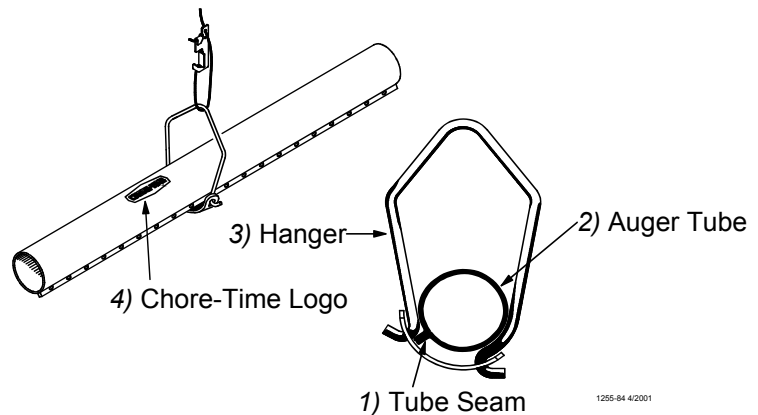

Figure 30. Hanger Installation
3. To achieve total feed drop out all along the system, the Chore-Time Logo should be centered at the crown of the tubes and all the Hangers should be installed as shown in Figure 30.